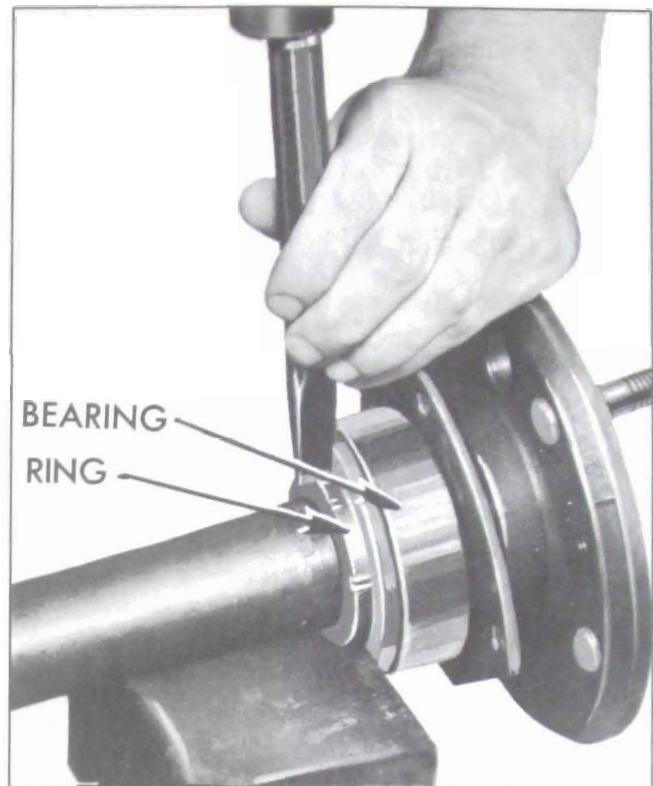

Figure 6-6—Removing Rear Wheel Bearing Retaining Ring
1. Notch wheel bearing retaining ring in 3 or 4 places with a chisel. See Figure 6-6. Retaining ring will expand so that it can be slipped